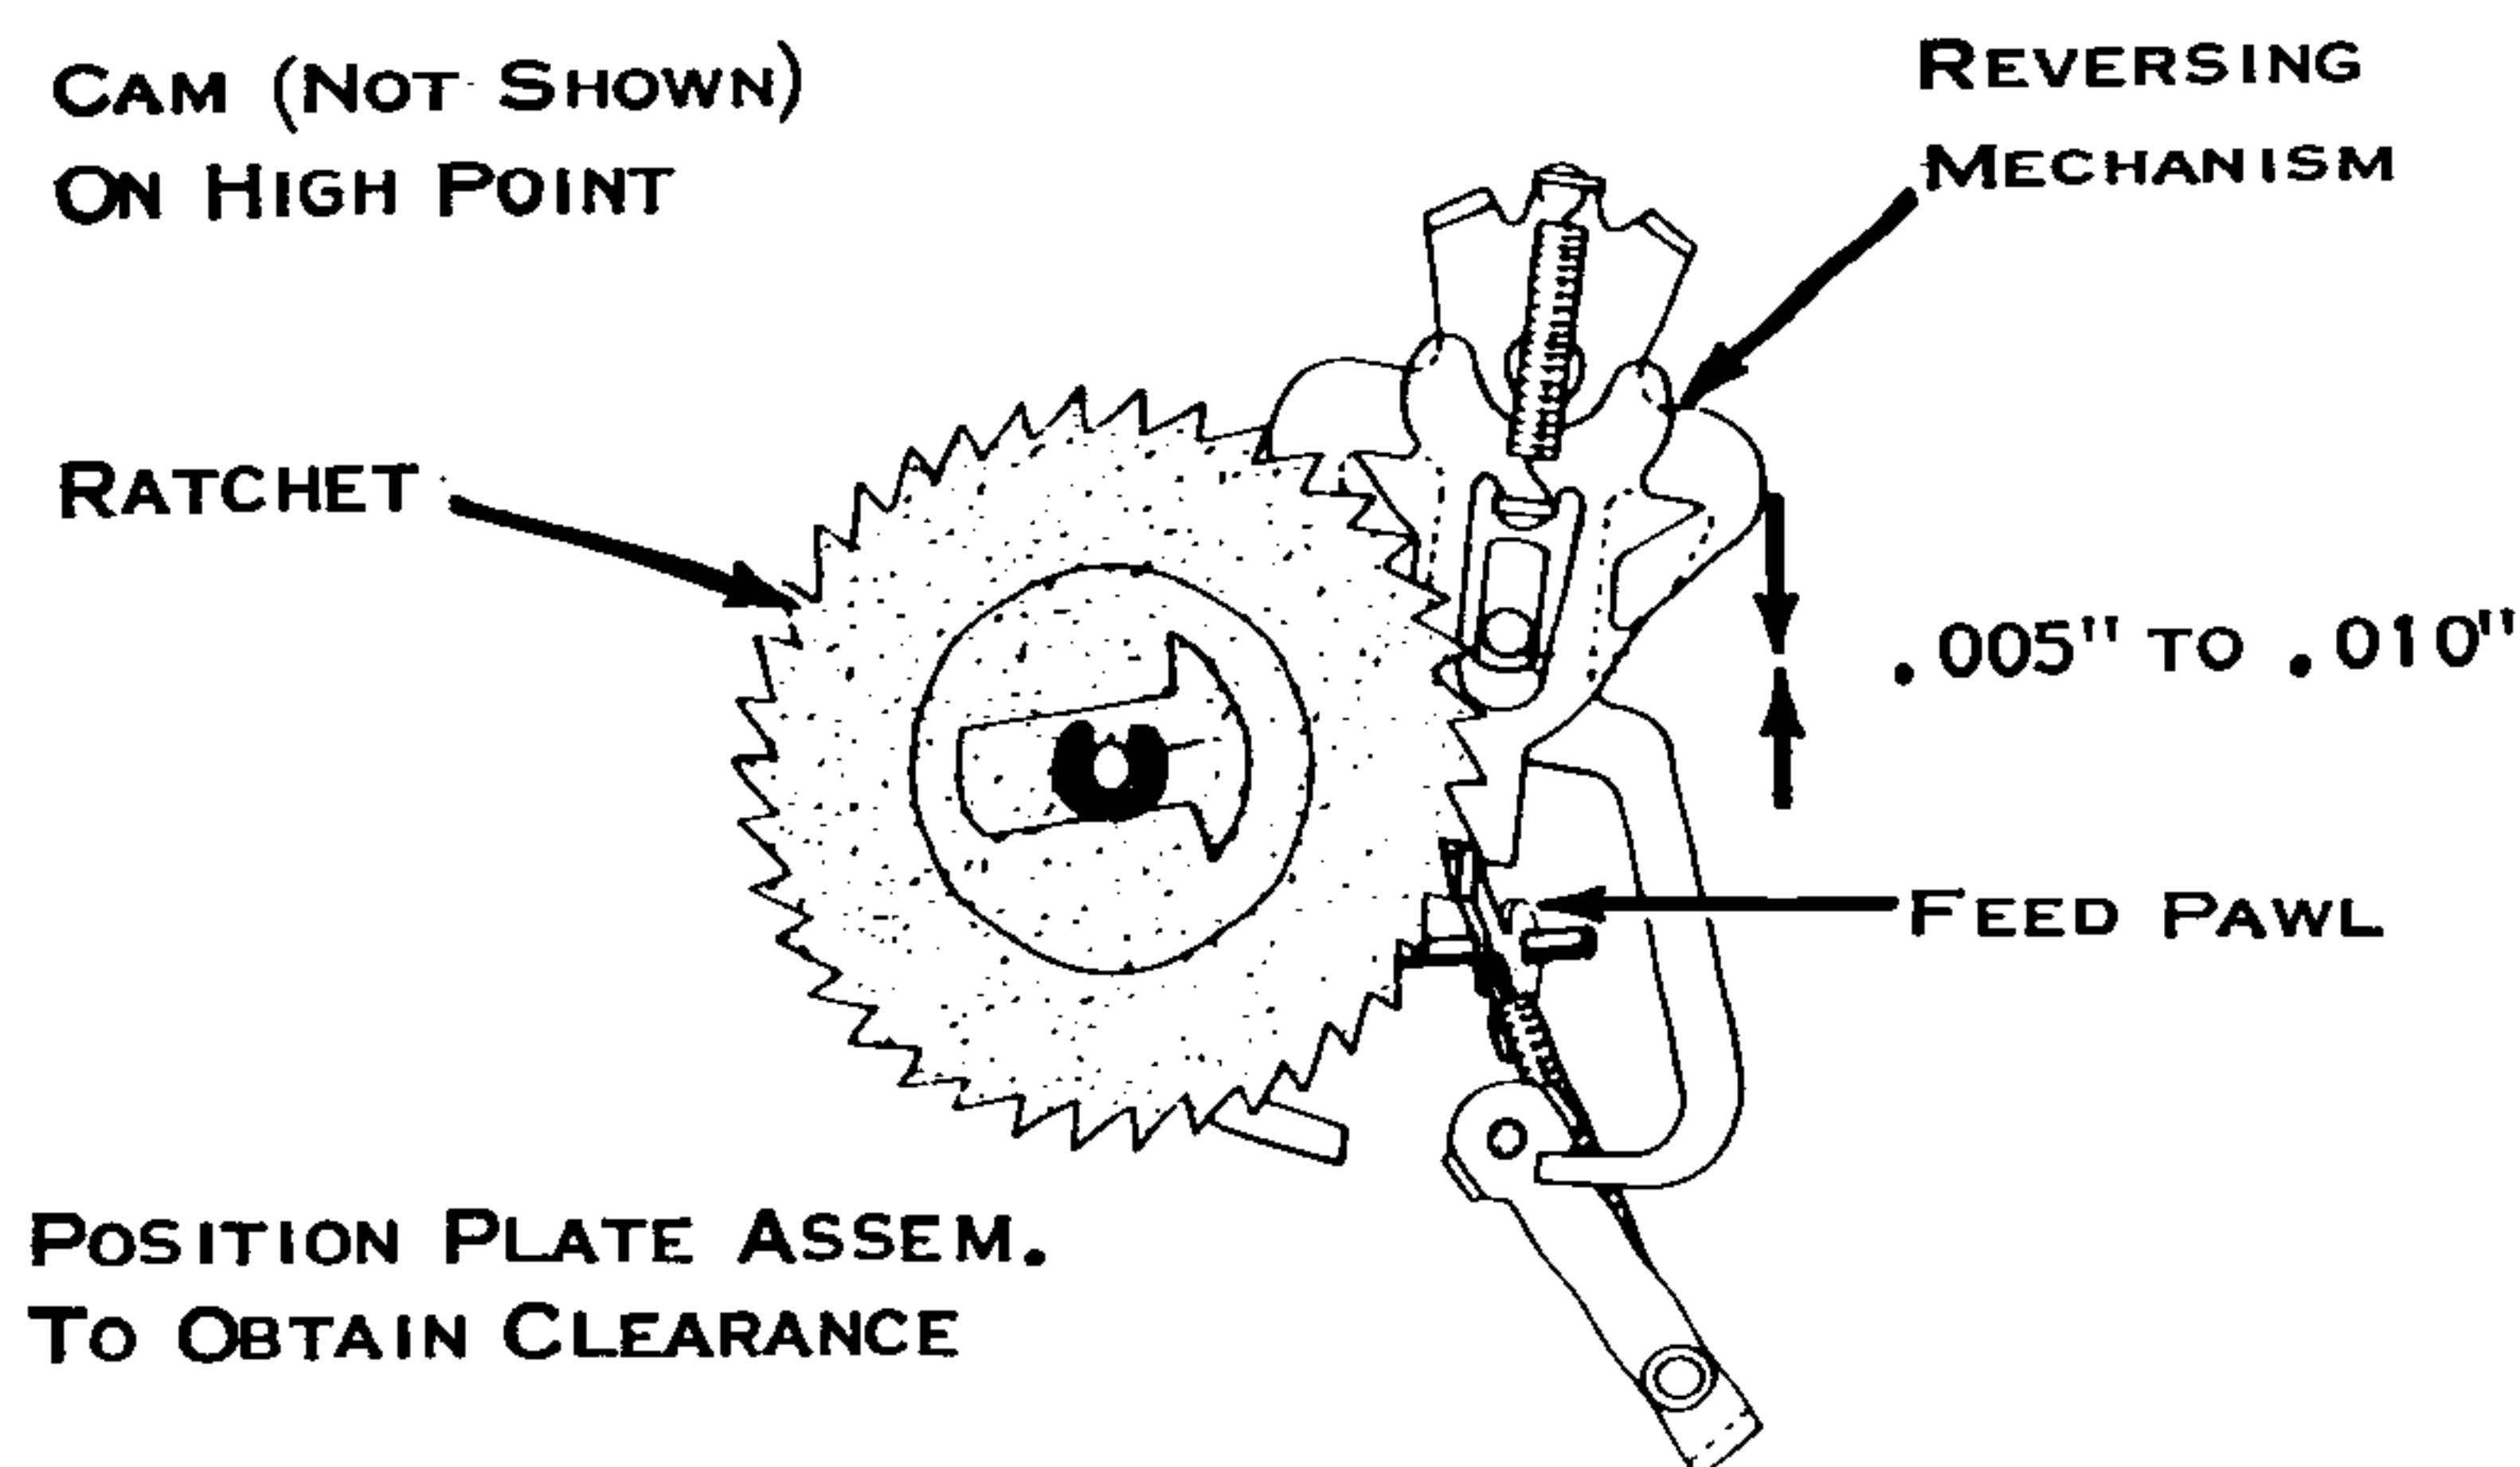

Figure 207. Ribbon Feed Plate
3. Ribbon Feed Plate (Fig. 207) - With the ribbon mechanism set for a reversing operation and the ribbon feed cam at its high point, adjust the ribbon feed plate forward or back so that the ribbon feed pawl holds the reverse interposer within .001" to .015" of its total travel.